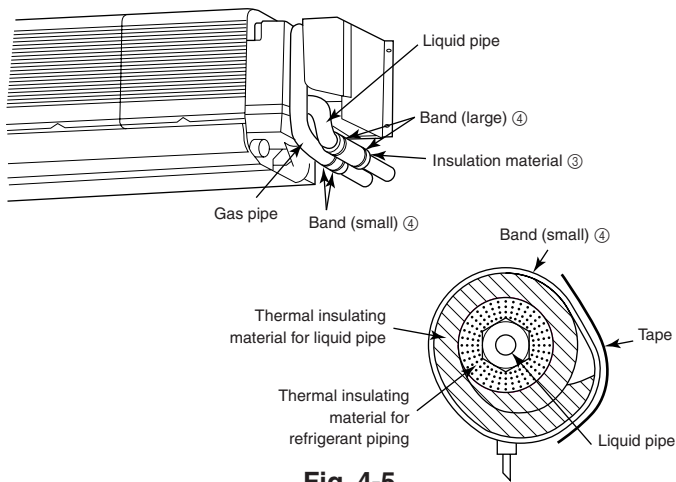

Fig. 4-5
4.3. Refrigerant piping (Fig. 4-5)